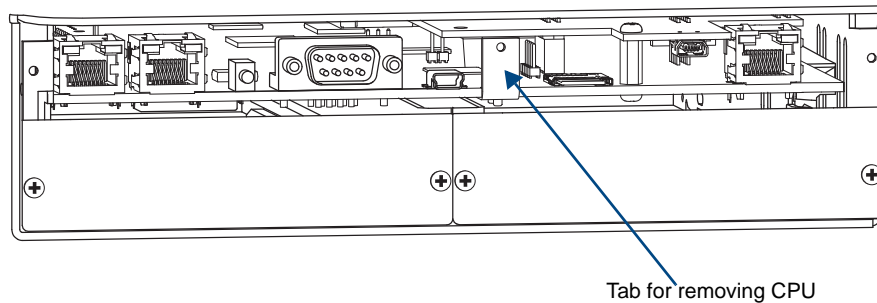

FIG. 116 Use tab to pull CPU board straight out
5. Use the tab indicated in FIG. 116 to pull the CPU board straight out of the enclosure.
16. Check the CPU's System Status LED for indications of normal display (see table below FIG. 116).